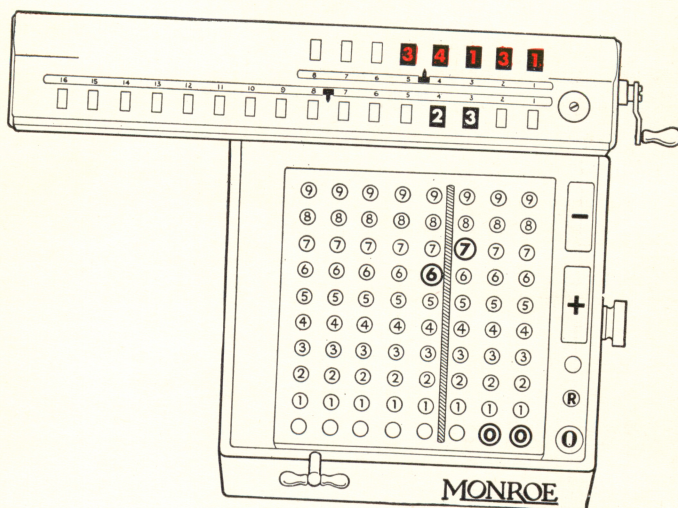

Figure 10
*Step 8*—The result will register automatically in red in the upper dials in correct position with relation to the decimal point which was previously set, and the final result will appear as in Figure 10. The .0002300 shown in the lower dials is the remainder.